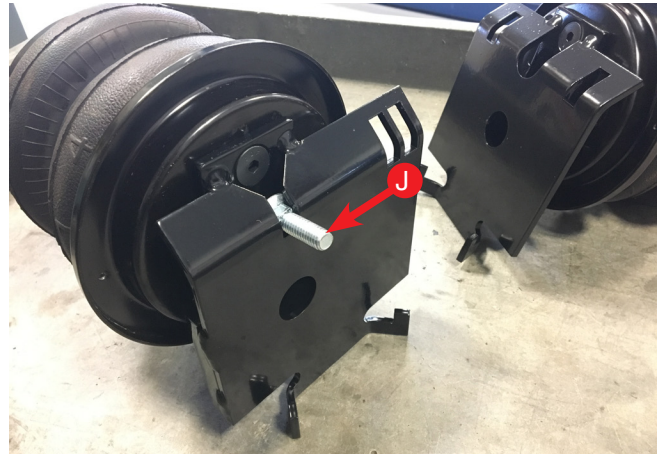

Fig. 21
1. Index a 3/8" carriage bolt (J) into the opening on the front of the driver's side assembly as shown (Fig. 21).